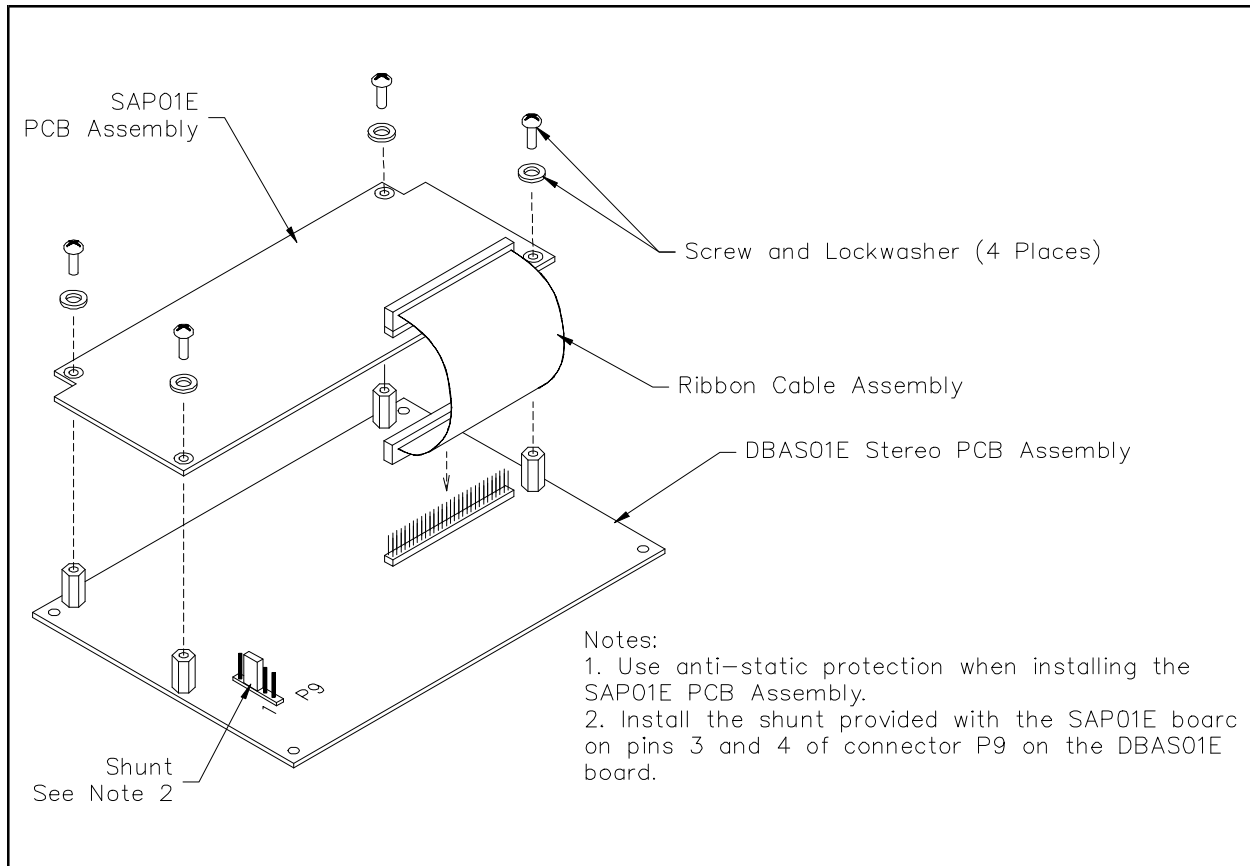

Figure 4. SAP01E installation diagram
To attach the SAP01E daughterboard to the DBAS01E main board, refer to Figure 4 and follow this procedure:
- To inform the DBAS01E that a SAP board is present, install the jumper (shunt) supplied with the SAP01E so as to connect pins 3 and 4 of connector P9 on the DBAS01E board as shown in Figure 4.